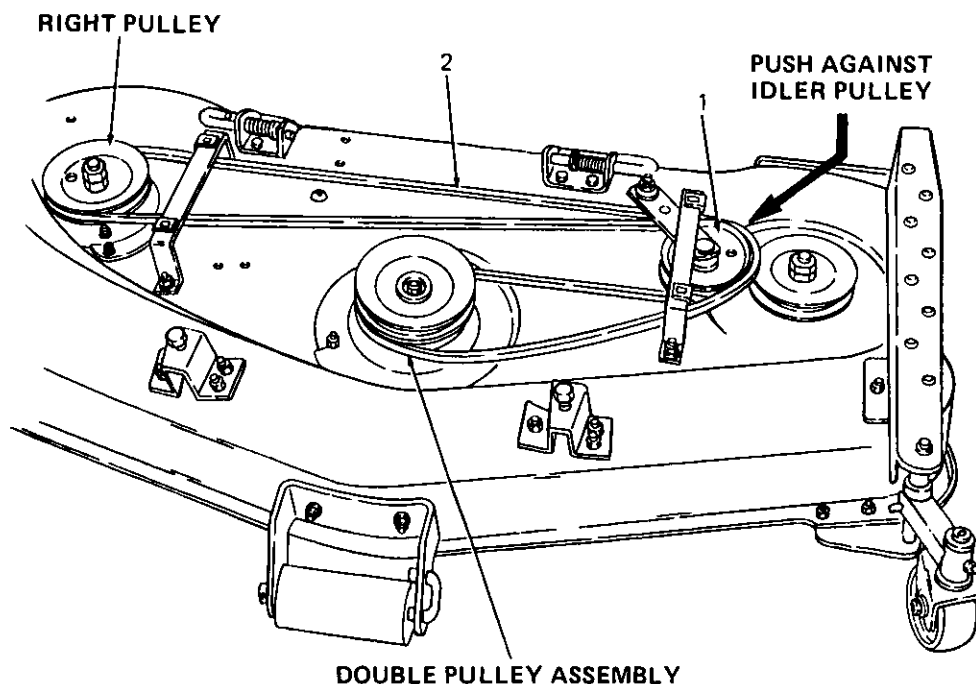

Figure 27
4. Place belt over right pulley, under idler arm between idler pulley and post, and over lower pulley of double pulley assembly. Refer to Figure 27.